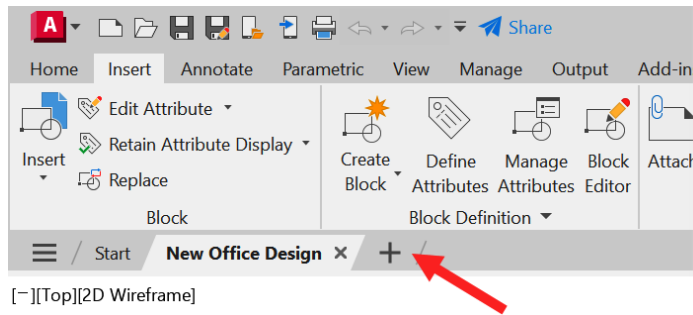

Figure 9.17: The file tabs in AutoCAD with the + tab arrowed
1. With the `New Office Design.dwg` file still open, check the file tabs underneath the ribbon at the top of the AutoCAD screen, as shown in *Figure 9.17*. You will see the **Start** tab and the **New Office Design** tab. A tab with a + (plus) symbol is also displayed. Click on that tab to open a new blank drawing file (note that you may need to turn off the **Grid** setting on the status bar).